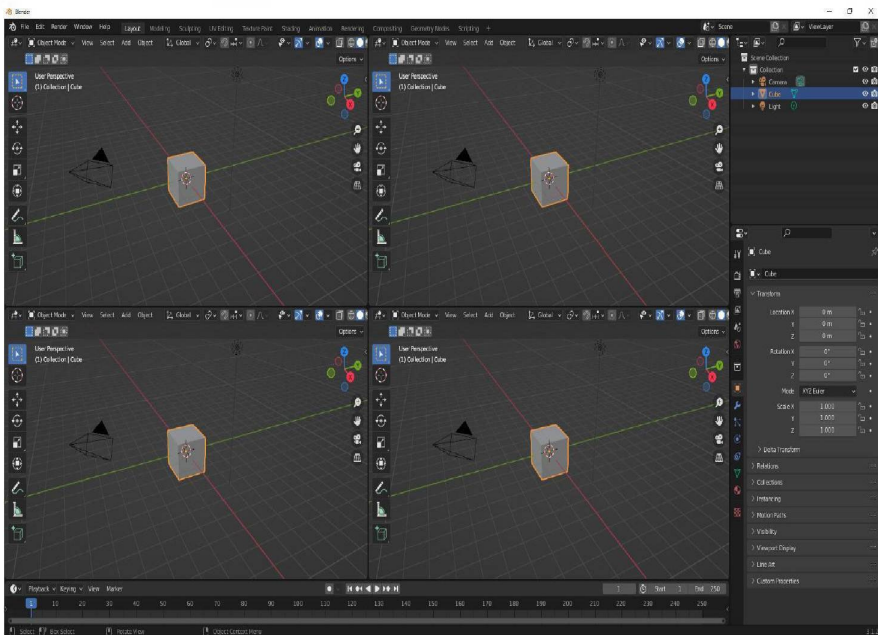

Figure 2.19: Quad 3D Viewports
6. Right-click the menu bar above each **3D Viewport**, one at a time, and this time select **Vertical Split**. Press **Ctrl** and snap the vertical line to the middle of each **3D Viewport**. Now you should have what is commonly called a “quad view” as shown in *Figure 2.19*: